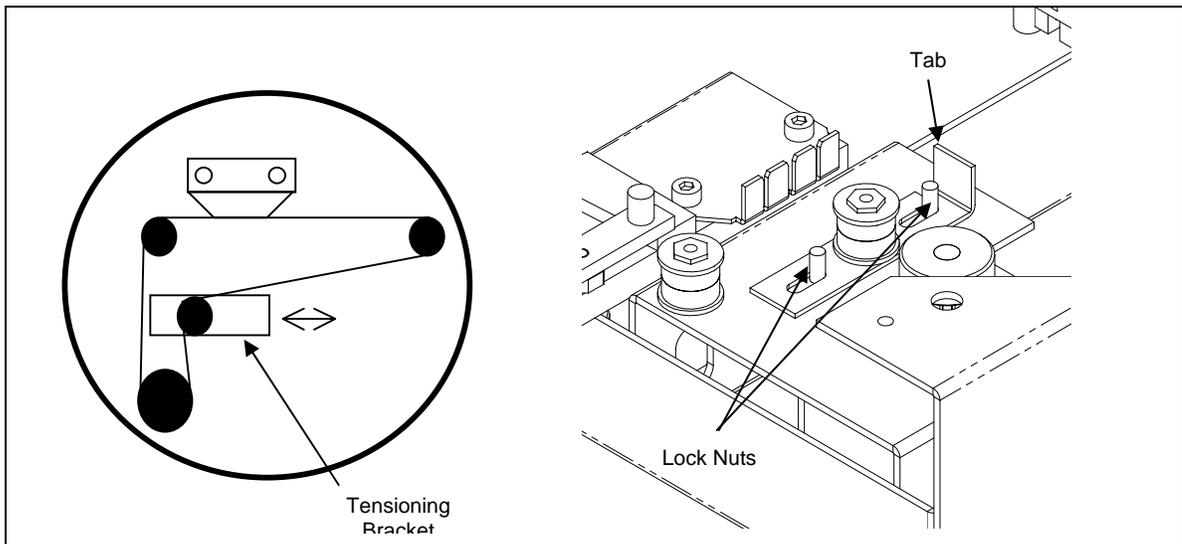

Figure 15-5 Tightening the Belt
- 4 Using the force gauge in compression mode, engage the tab on the tensioning bracket and create between 3000 and 3750 grams (6.14 to 8.27 lbs) of tension in the belt (Figure 15-5).